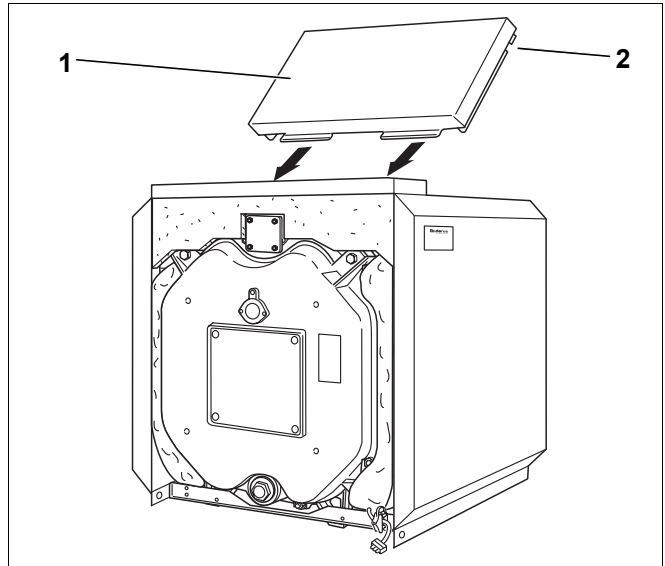

Fig. 37 Installation of the rear hood
- Position the rear hood (Fig. 37, **Item 1**) between the side walls, so that the cut-out engages (Fig. 37, **Item 2**) above the cross support bracket.